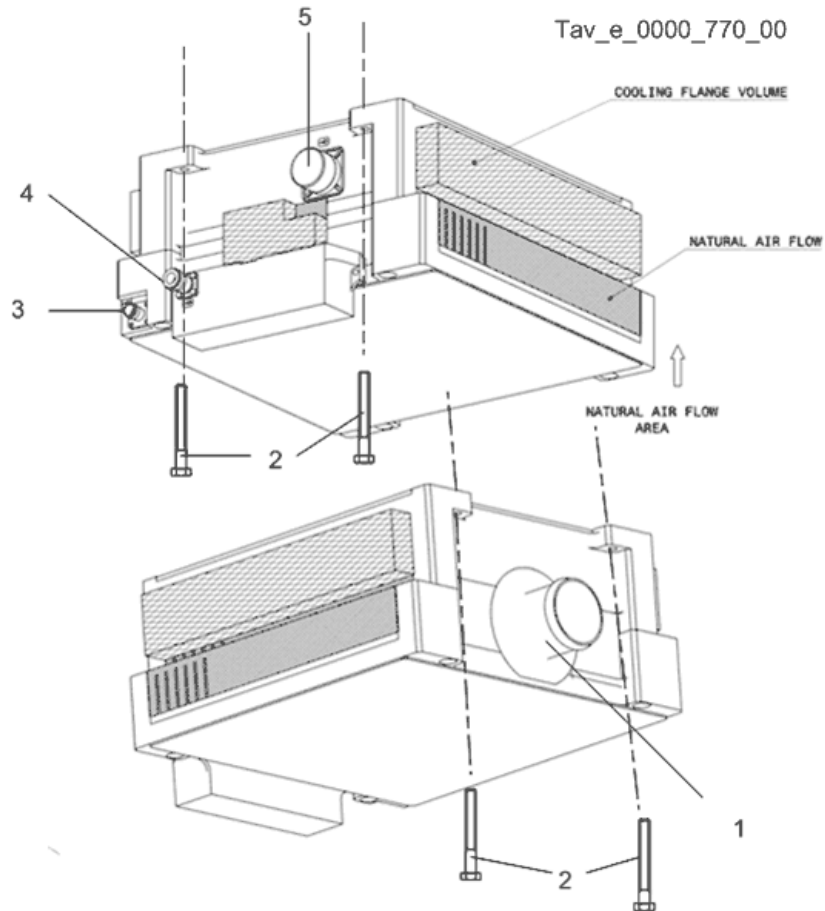

Figure 6.1 FMHPA Remove/Install
(1) Remove the FMHPA as follows:
- b. Remove forced drawn air cooling pipe from rear of FMHPA (Refer Figure 6.1 item 1).
- c. Disconnect DataBus/Power cable from connector J1 (5) on front of FMHPA.
- d. Disconnect RF IN cable from connector J2 (3) on front of FMHPA.
- e. Disconnect RF OUT cable from connector J3 (4) on front of FMHPA.
- f. Assuming that the mounting fixture is equipped with anchor nuts, loosen and remove the four fixings screws (2) that retain the FMHPA to its mounting fixture while supporting the FMHPA. Retain the screws for future installation.